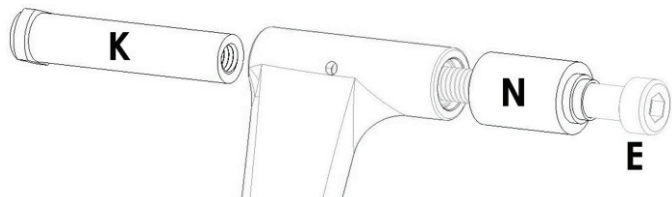

Fig. 5
3. To remove the Equilink DU Bushings you must first remove the Grease Needle Fittings. This can be done by gently pulling them out with a set of good quality pliers. Discard the fittings you just removed. There is a new set of grease fittings included with your rebuild kit. After the grease fittings are removed, orient the tools as shown in Fig. 5. Tighten the bolt until both DUs inside each (top and bottom) barrel of the Equilink are pressed into the DU Receiver (N).